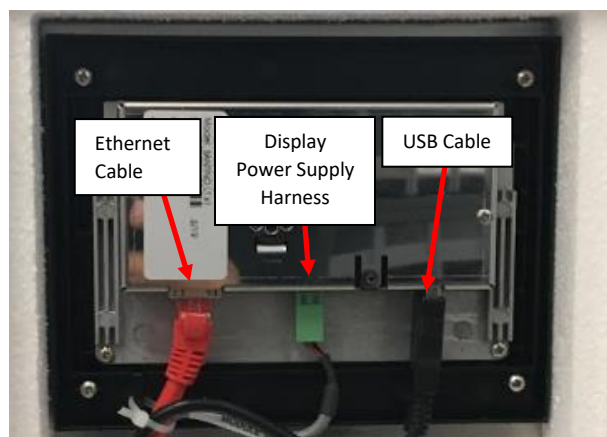

Figure 17: Screen Wiring shown.
1. Open the door and remove the screen cover and foam to verify that the Ethernet cable, USB cable and Power Supply cable are all plugged in. Plug in a loose connection **See Figure 17.**